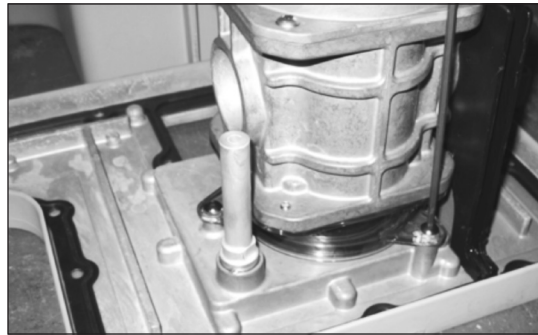

Figure 9.36 - Remove 3 (#10-24) screws
5. Use a 1/8" Allen wrench to remove the 3 (#10-24) screws on the amber colored measurement cartridge end cover as shown in Figure 9.36.